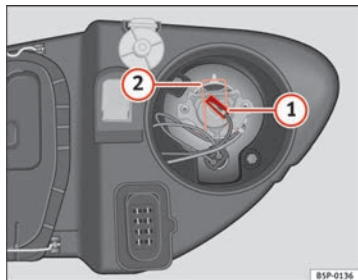

Fig. 187 Main beam headlights
- Remove the connector ⇒ fig. 187 ① from the bulb.
- Press the spring ⇒ fig. 187 ② inwards and to the right.